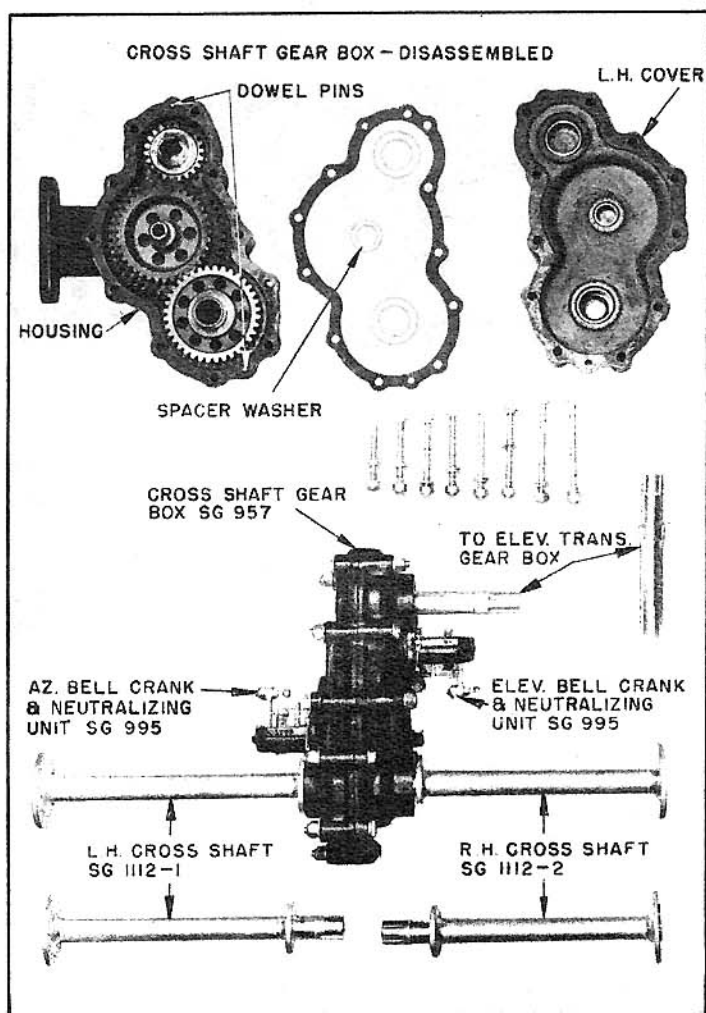

FIGURE 15
g. Cross Shaft Gear Box. - (1) (See Figure 15). If it is necessary to remove the azimuth and elevation neutralizing units (SG 955), refer to Figure 9 for details of disassembly. The most probable cause for disassembly will be weakened springs. When replacing the springs be sure that there is no binding in the units, particularly between the springs and spring guards.
(2) Remove the left hand cover carefully so that the 2 dowel pins will not be
damaged. Note that the 8 bolts are of varying lengths, as shown in Figure 15.